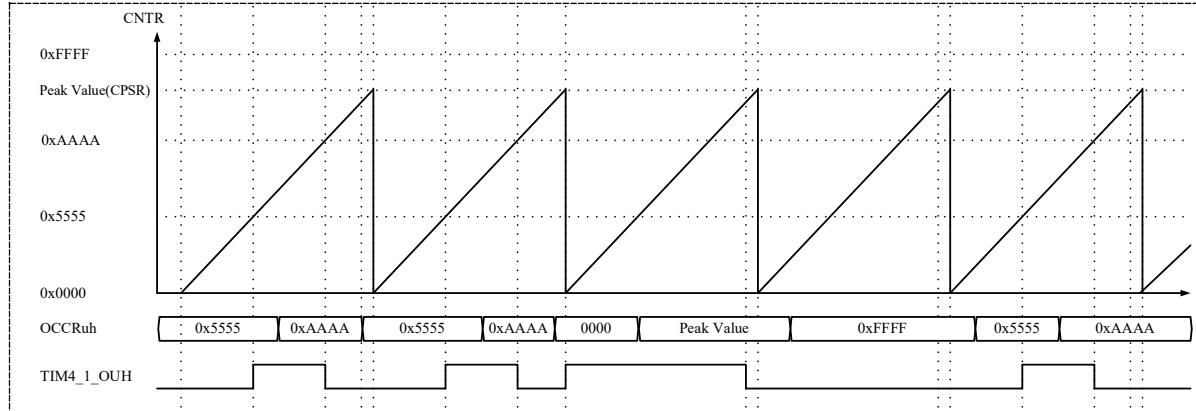

Figure 22-6 Sawtooth wave mode waveform output example
- Figure 22-6 is an example of the waveform output of the compare output module in the sawtooth wave mode.